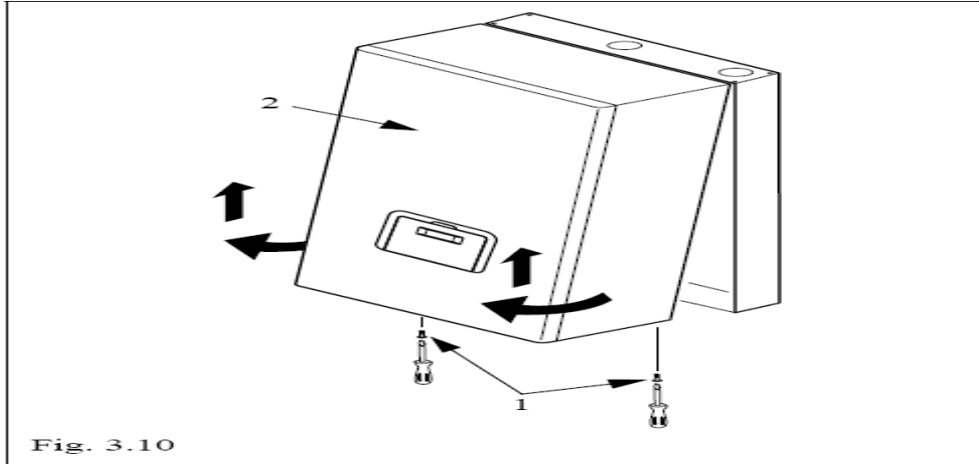

Fig. 3.10
- Remove the front panel (2) by removing the screws (1). (Figure 3.10)